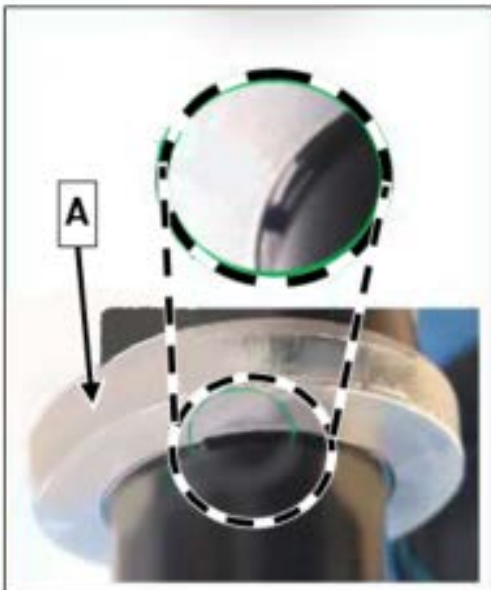

Figure 2 (OK)
- a. Stop plate (A, Figure 2) is seated correctly: **End measure.**